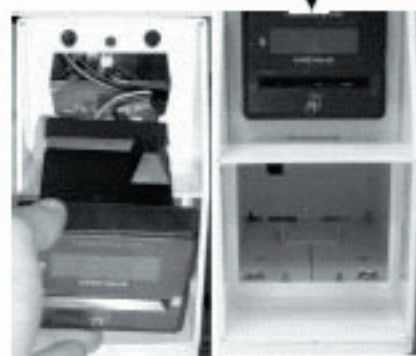

Fig. 2-40
11. Install the card reader into the upper meter case opening. Push the card reader into the meter case, then lock it by pushing down slightly. (Fig. 2-40)